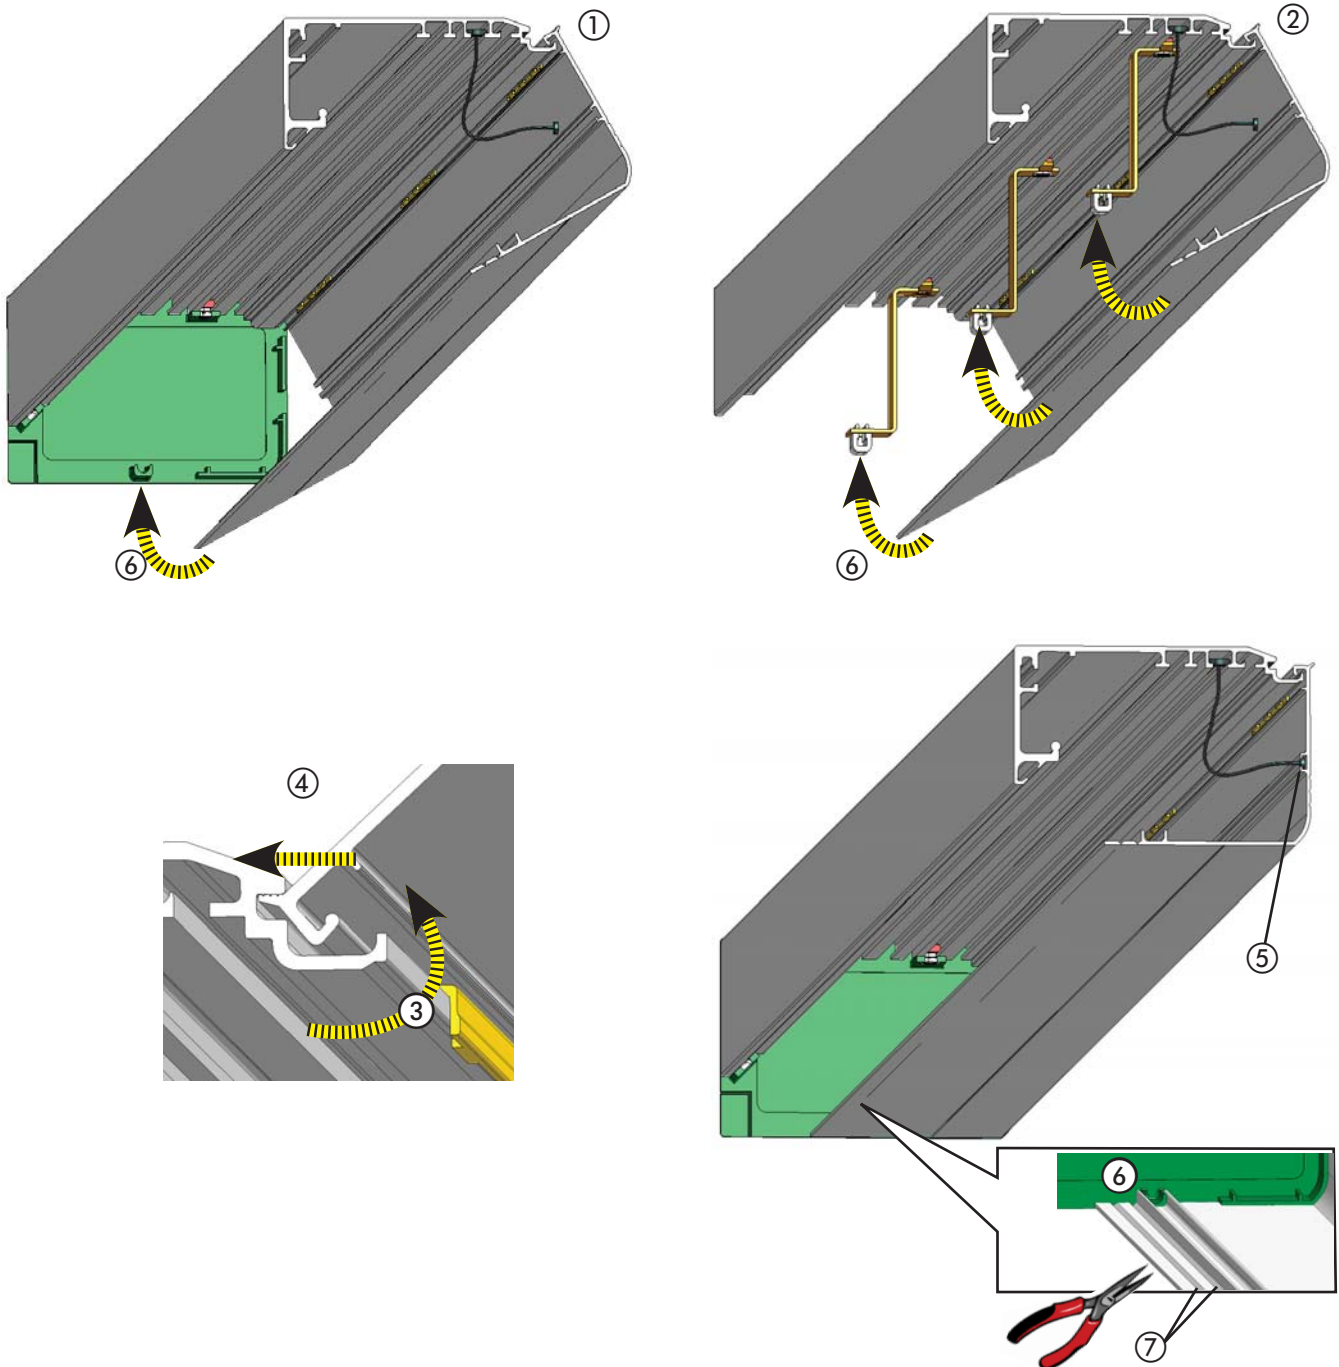

fig. 26
- Lay the closing housing on the spacers you had previously mounted, as shown in Fig. 26 ① or ②.
- To keep the housing open, lift it (Fig. 26 ref. ③) and push it (Fig. 26 ref. ④) toward the profile until the metal protrusion fits in the profile seat.
- Secure the parachute cables in the appropriate seats (Fig. 26 ref. ⑤)
- The closing housing is locked in line with the two side panels or the securing brackets (Fig. 26 ref. ⑥)
- The closing housing is pre-marked to adapt it to different leaf thickness values. Eliminate excess profile by cutting at the points indicated in fig. 26 ref. ⑦.